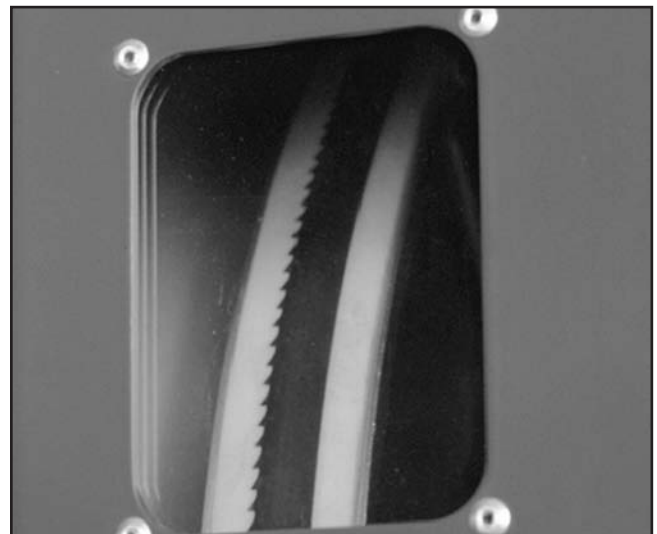

Figure 51. Blade tracking window.
2. Observe the blade tracking path through the clear window on the right side of the bandsaw, as shown in **Figure 51**.